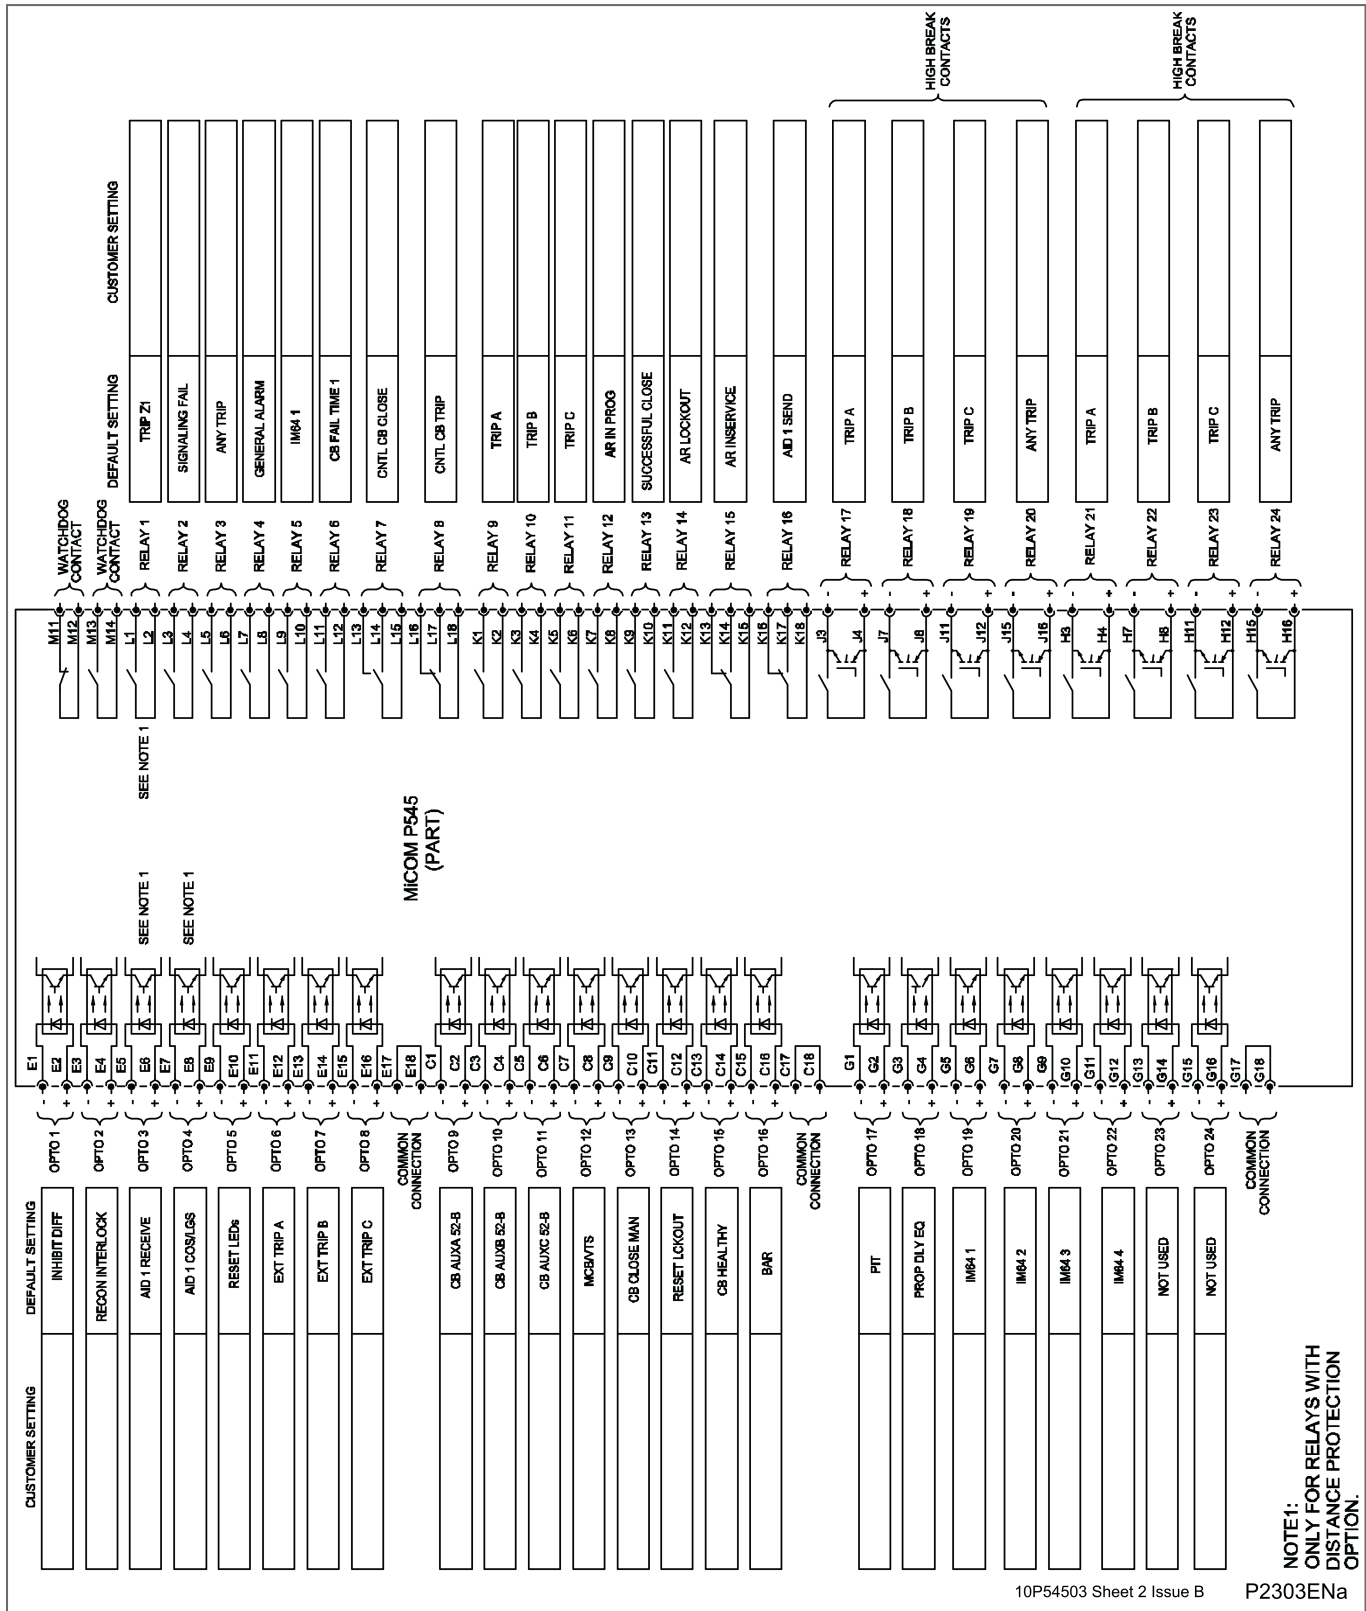

Figure 17 - P545 - 24 inputs/outputs default mapping - 16 standard and 8 high-break outputs
- Figure 17 - P545 - 24 inputs/outputs default mapping - 16 standard and 8 high-break outputs